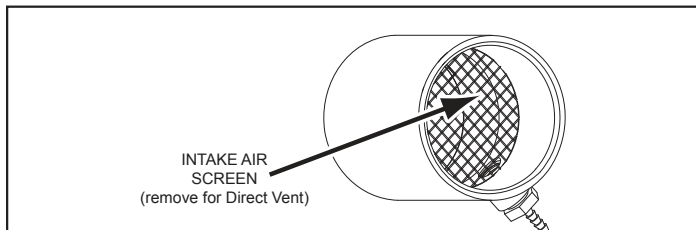

Figure 18. Intake Air Screen
13. Ensure the Intake Air Screen on the Intake Air Connection to the water heater is removed before connecting the intake air pipe to the water heater. See **Figure 18** (page 25).